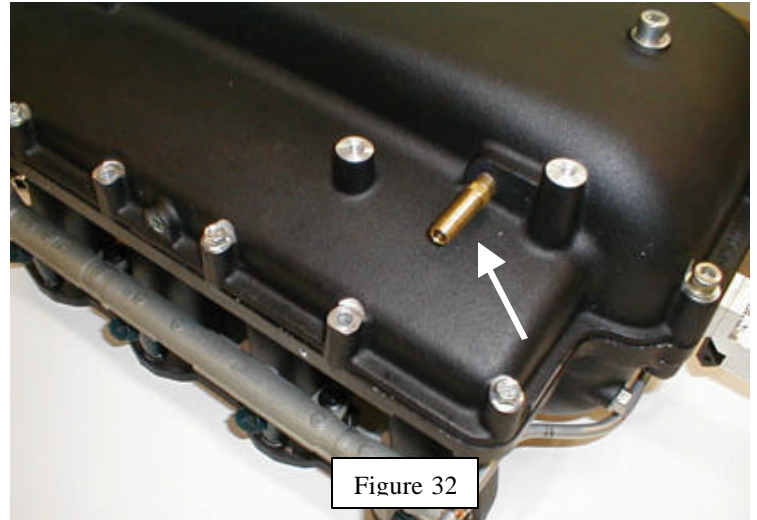

Figure 32
58. On Tundra and Sequoia only, remove 1/8" NPT plug and install 1/8" NPT x 3/8" barb fitting into supercharger plenum (Figure 32).